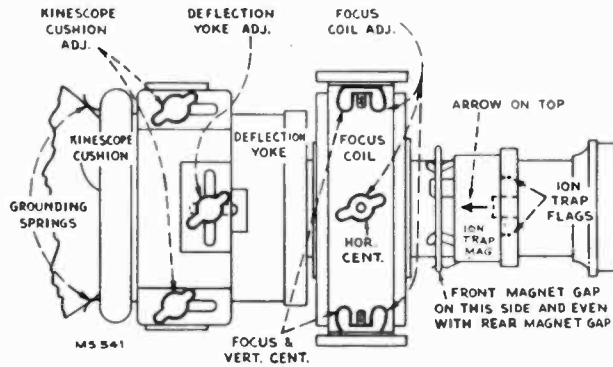

Figure 3—Yoke and Focus Coil Adjustments
Take off the television compartment back grille. Loosen the two kinescope cushion adjustment wing screws and slide the cushion toward the rear of the chassis. Loosen the deflection yoke adjustment, slide the yoke toward the rear of the chassis and tighten. See Figure 3 for the location of the cushion and yoke adjustments.
Early production receivers employed an EM type ion trap magnet like that in the model 630TS receiver. Late production receivers employed a PM type magnet as shown in Figure 3. If an EM type is employed, slip the assembly over the neck of the kinescope with the coils down and the large coil towards the base of the tube. Tighten the magnet adjustment thumbscrews sufficiently to hold it in position but still free enough to permit adjustment.
If the PM type is employed, slip the assembly over the neck of the kinescope with the large magnet towards the base of the tube and with the arrow on the assembly up as shown in Figure 3. The front magnet is movable on the assembly. The correct position is with the gap of the front magnet to the left (from the rear of the chassis) and even with the gap of the rear magnet.
**ION TRAP MAGNET ADJUSTMENT**—The ion trap rear magnet poles should be approximately over the ion trap flags as shown in Figure 3. Starting from this position adjust the magnet by moving it forward or backward, at the same time rotating it slightly around the neck of the kinescope for the brightest raster on the screen. Tighten the magnet adjustment thumbscrews sufficiently to hold it in this position but still free enough to permit further adjustment. Reduce the brightness control setting until the raster is slightly above average brilliance. Adjust the focus control (R129 on the chassis rear apron) until the line structure of the raster is clearly visible. Readjust the ion trap magnet for maximum raster brilliance. The final touches on this adjustment should be made with the brightness control at the maximum position with which good line focus can be maintained.